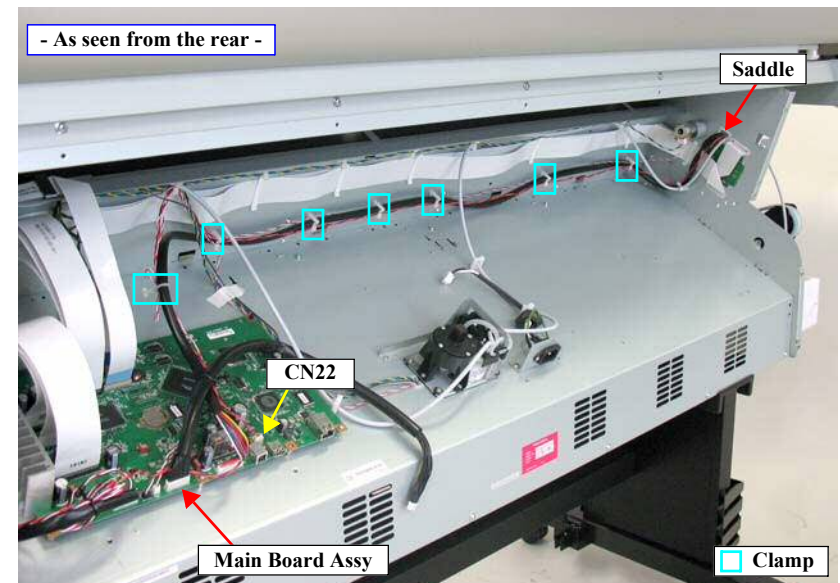

Figure 4-40. Releasing the harnesses
9. Release the cables from the seven clamps and the saddle. *See Figure 4-40.*